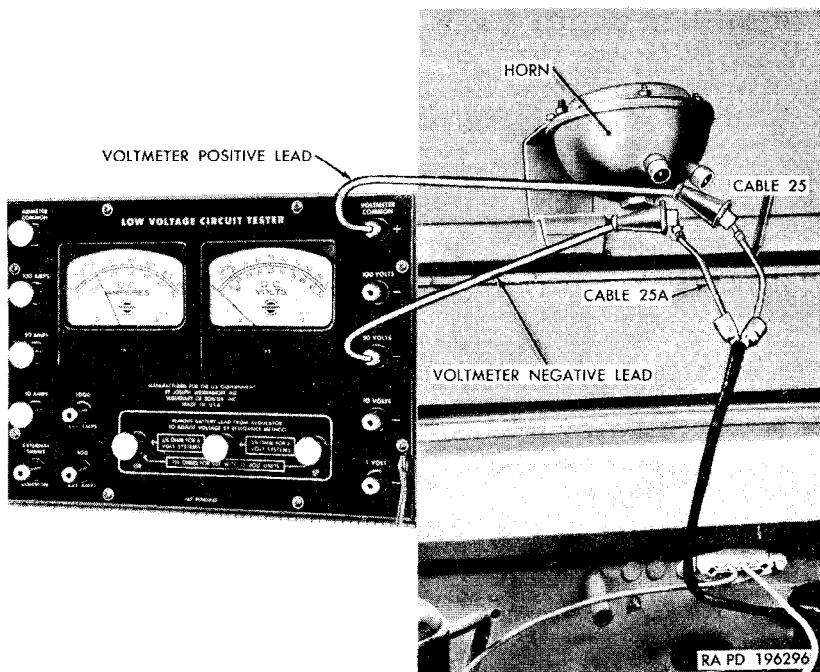

Figure 63. Checking for current at horn connections.
- (1) *Batteries discharged.* Check batteries for specific gravity (par. 167b). Replace batteries if necessary (par. 168).
- (2) *Horn faulty.* Check to determine whether current reaches the horn cable connectors, using the low voltage circuit tester (fig. 63).
- (b) Connect the positive (+) test lead to the positive (+) terminal of the low voltage circuit tester and attach the clip end of the lead to the terminal of cable (25).